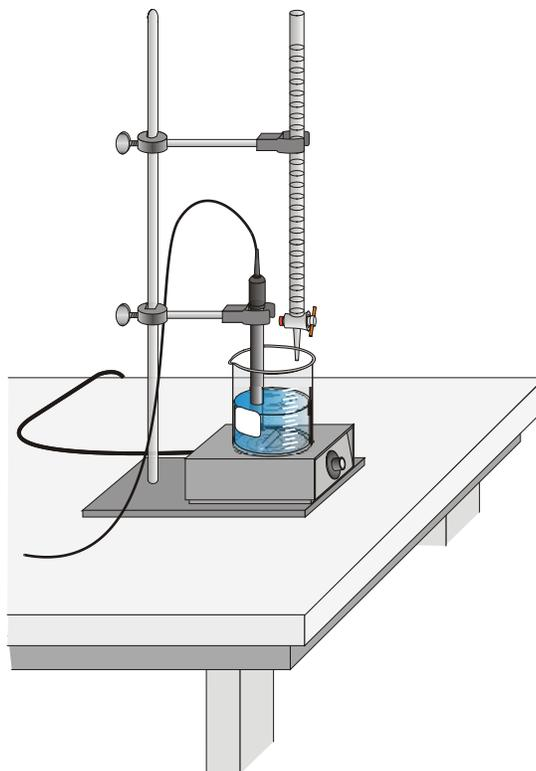

Figure 2
6. Use a utility clamp to suspend a pH Sensor on a ring stand as shown in Figure 2. Position the pH Sensor in the HCl solution and adjust its position so that it is not struck by the stirring bar.
7. Obtain a 50 mL buret and rinse the buret with a few mL of the  $\sim 0.1$  M NaOH solution. Dispose of the rinse solution as directed by your teacher. Use a utility clamp to attach the buret to the ring stand as shown in Figure 2. Fill the buret a little above the 0.00 mL level of the buret with  $\sim 0.1$  M NaOH solution. Drain a small amount of NaOH solution so it fills the buret tip *and* leaves the NaOH at the 0.00 mL level of the buret. Record the precise concentration of the NaOH solution in your data table. **CAUTION:** *Sodium hydroxide solution is caustic. Avoid spilling it on your skin or clothing.*